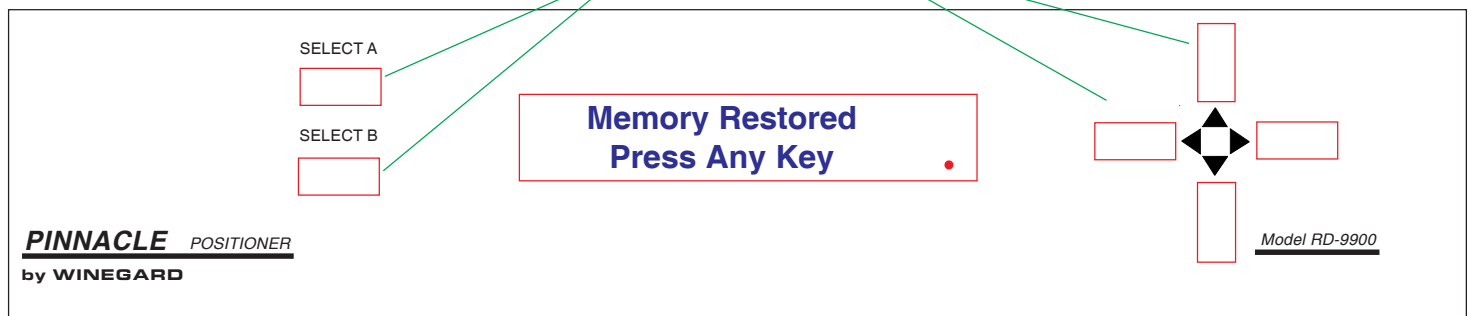

Figure 7
7. Press **[any key]** when **Memory Restored Press Any Key** is displayed on positioner, see Figure 7. If antenna is not in park position, positioner will put it in the park position. When system is park position, the main menu will be displayed.